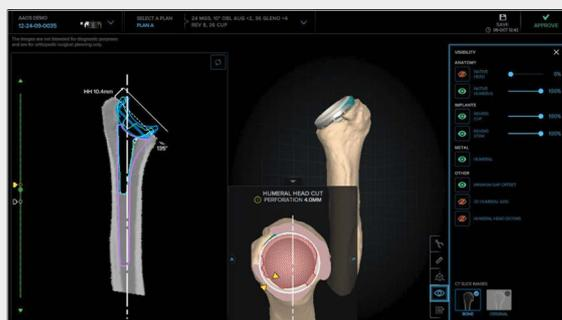

Figure 77. Humeral viewer page with available visibility tool selections
- The “Humeral Viewer” page will display the implants present at the time of CT acquisition and the Arthrex-selected glenoid and humeral implants in their proposed locations and orientations on both the 2D images and 3D model per the planning protocol. Users may show or hide the anatomy, implants, or proposed implants by selecting the appropriate toggle in the visibility tool as seen in Figure 77.